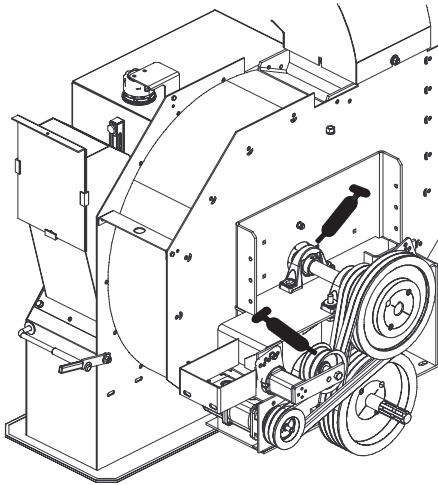

Figure 13
The impeller shaft and input shaft each have (2) bearings (Fig. 13) that must be lubricated after every 8 hours of operation with a No. 2 Lithium-based grease.